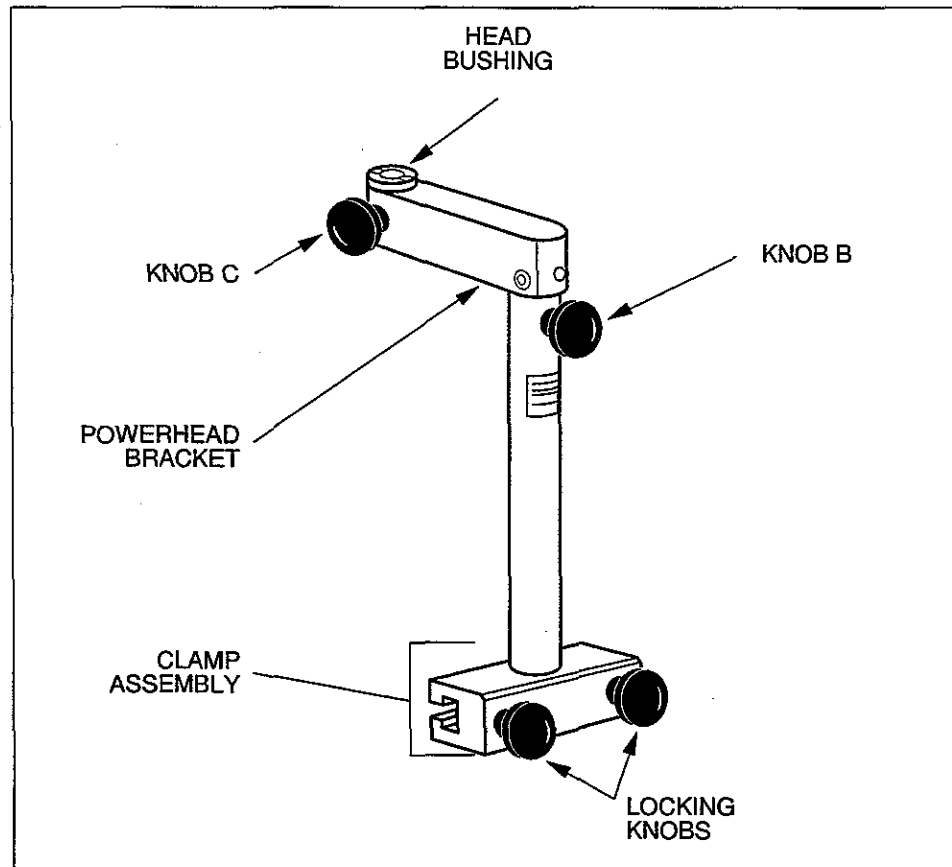

Figure 2-12
1. Fully loosen Knob C; refer to Figure 2-12.